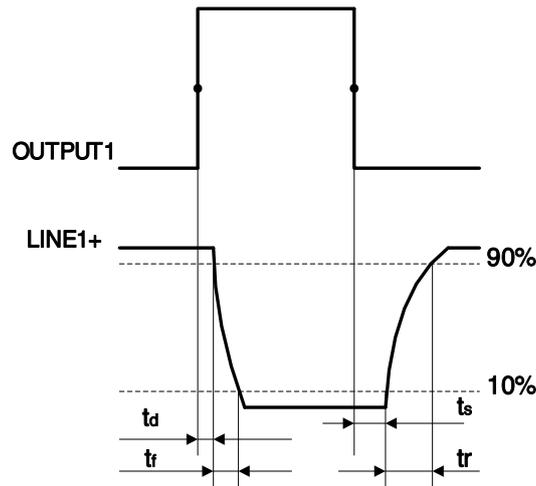

Figure 7-6 Parameter of opto-isolated output circuit
- Rising time delay = t_r+t_d : $<50\mu s$ (0°C~45°C) (parameter description is shown in Figure 7-6)
- Falling time delay = t_s+t_f : $<50\mu s$ (0°C~45°C) (parameter description is shown in Figure 7-6)
- Rising time delay = t_r+t_d : $<20\mu\text{s}$ ($0^{\circ}\text{C}\sim 45^{\circ}\text{C}$) (parameter description as shown in Figure 7-6)
- Falling time delay = t_s+t_f : $<20\mu\text{s}$ ($0^{\circ}\text{C}\sim 45^{\circ}\text{C}$) (parameter description as shown in Figure 7-6)